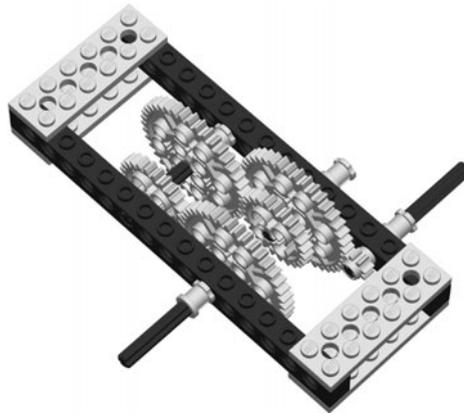

Fig. 9-12. Gear box.
**Try This:** Normally, a box of gears is used to perform large power conversions. Figure 9-12 shows one such gear box. Note that there may be two gears on one shaft.
The input is the tiny 8-tooth gear at the right of Fig. 9-12. This meshes with a 40-tooth gear, giving a 5 to 1 reduction in rotational speed and, ignoring losses due to friction, a 5 to 1 increase in torque. A 24-tooth gear on the same shaft meshes with another neighboring 40-tooth gear, for a 24:40 or 3:5 step. This pattern repeats once more, so the output shaft shows a speed reduction of: